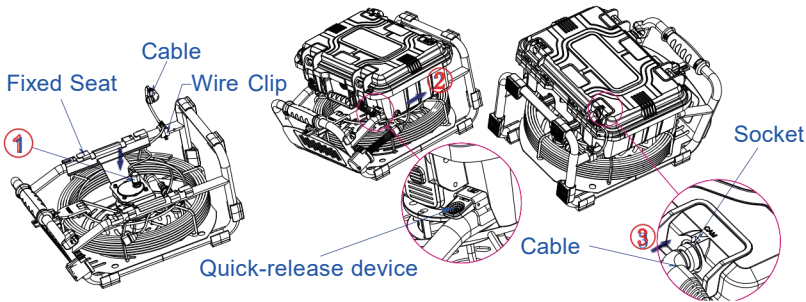

Figure 7. Install Toolbox Unit
2. Install the Toolbox Unit and Secure the Connection Cable (Figure 7.)